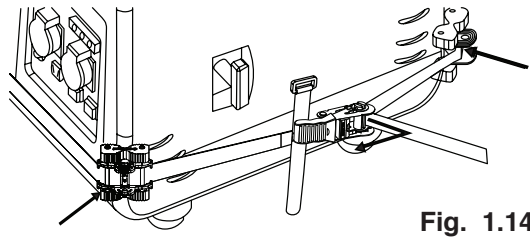

Fig. 1.14
- l. Once the Angle Braces are in the desired location, open and close the ratchet handle 1 or 2 times to begin tightening the system (Fig. 1.14). **Do not over tighten the system so tight that you cannot make any adjustments to the placement of the Angle Braces.**